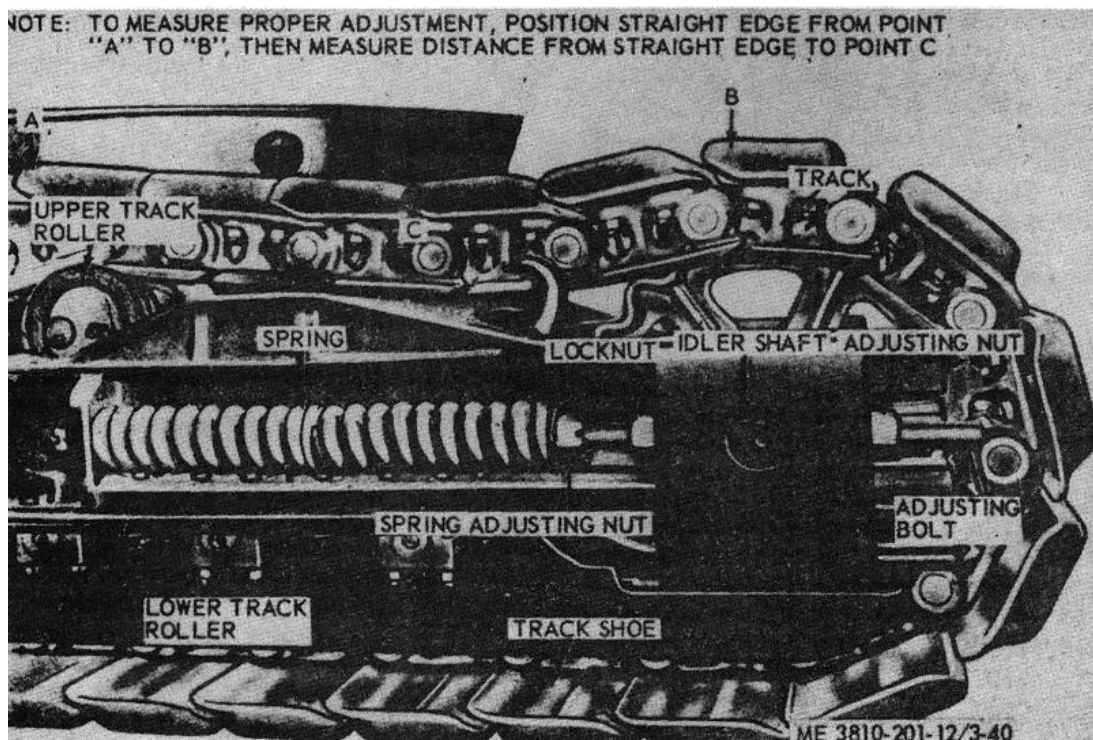

Figure 3-32. Track adjustment.
(1) Position a straight edge on track parallel with frame, between upper roller (fig. 3-32) and high point of track on top of drive sprocket. Measure distance between straight edge and low point of track sag. This distance should be approximately 1½ inches. If sag is more than 1 ½ inch, loosen locknut on adjusting bolt (on both sides of sprocket), then tighten adjusting nuts until sag is correct.
(2) Measure compressed length of springs. Each spring should measure 31 inches. To adjust length, backoff, or tighten spring adjusting nut (fig. 3-32), until length is correct.